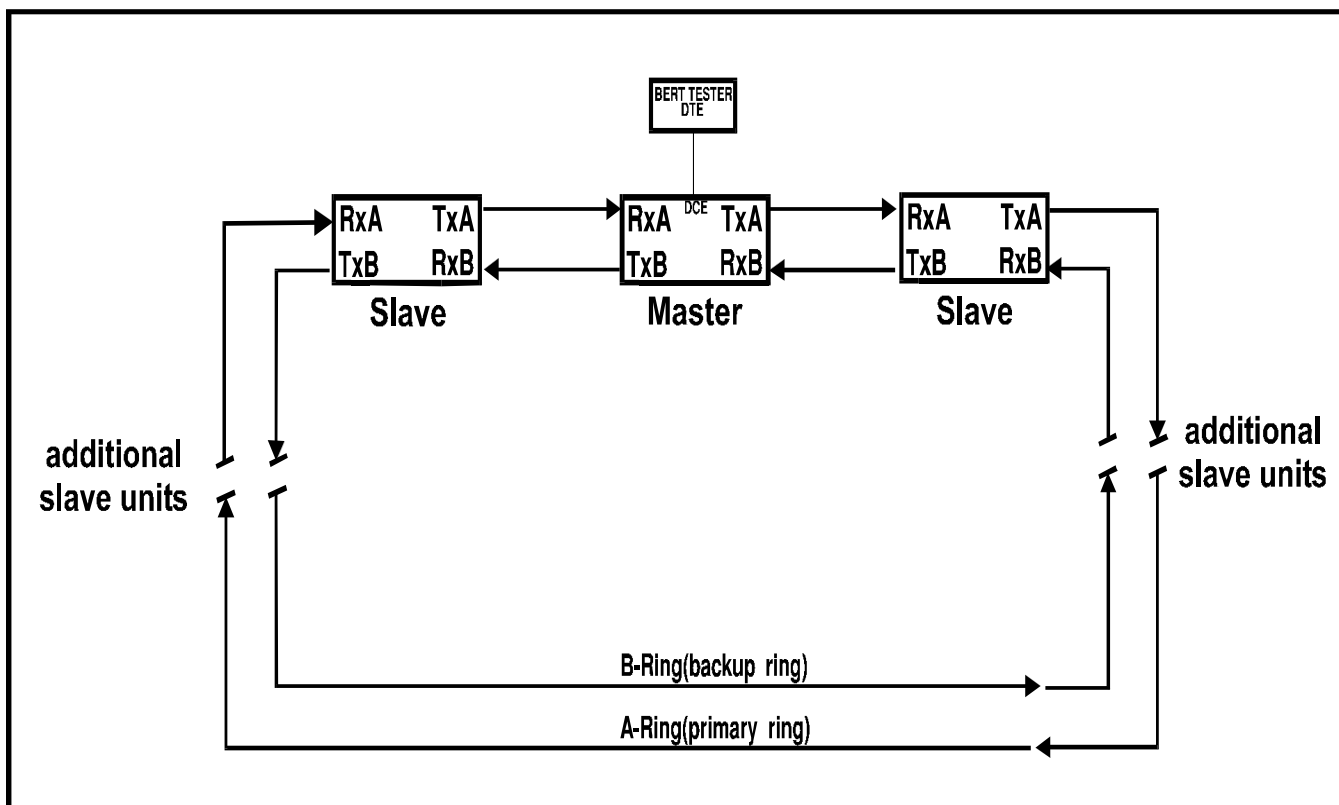

Figure 16. Bench Test Connection Diagram
1. Set up the bench test as shown in Figure 16. At the Master unit, turn "On" the "SIG-GEN" by sliding ESW3 downward. The "BRD-1" and "BRD-2" LEDs on the TC2100 (Master) should start blinking. The "BRD-1" and "BRD-2" LEDs on the TC2100s (Slaves) should also blink, indicating receipt of the Master's broadcast signal.